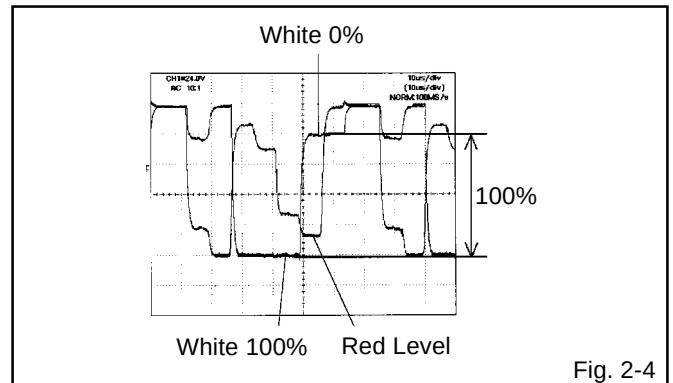

Fig. 2-4
6. Press the VOL. UP/DOWN button on the remote control until the red color level is adjusted to $85 \pm 5\%$ of the white level. **(Refer to Fig. 2-4)**